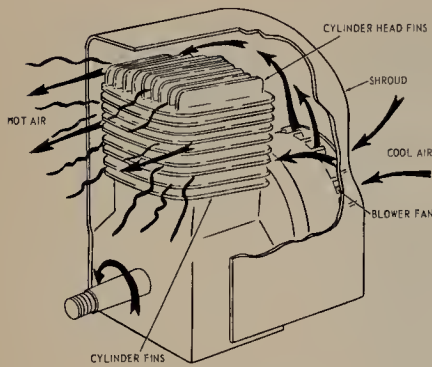
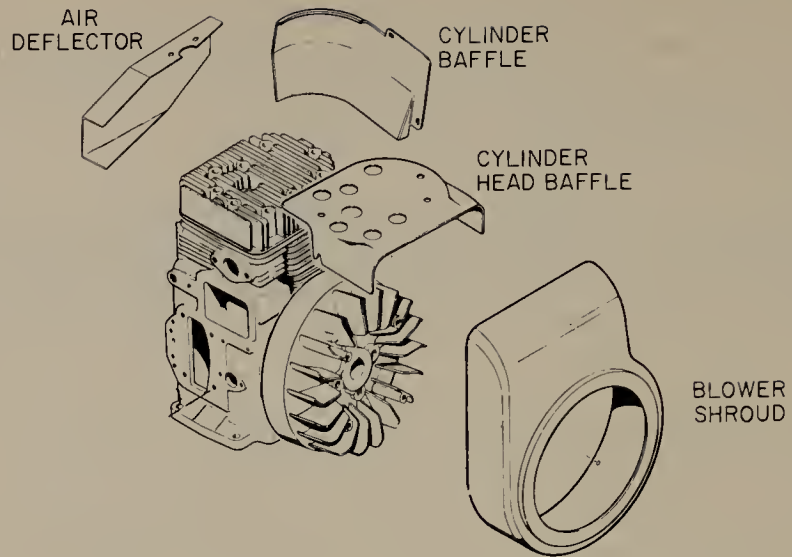

FIGURE 11.2 Action in a cooling system of a small engine which is shrouded. Arrows show flow of cooling air around cylinder and cylinder head.
FIGURE 11.3 Small engine with the shrouds removed.
11.4 Cleaning the Shroud. Many small engines have fans and shrouds to direct the flow of air around the engine cylinder, as shown in Fig. 11.2. The shroud will have to be removed before the engine can be cleaned. Figure 11.3 shows one shroud arrangement. Shrouds are held in place by screws which can be taken out to allow the shroud parts to be lifted off.